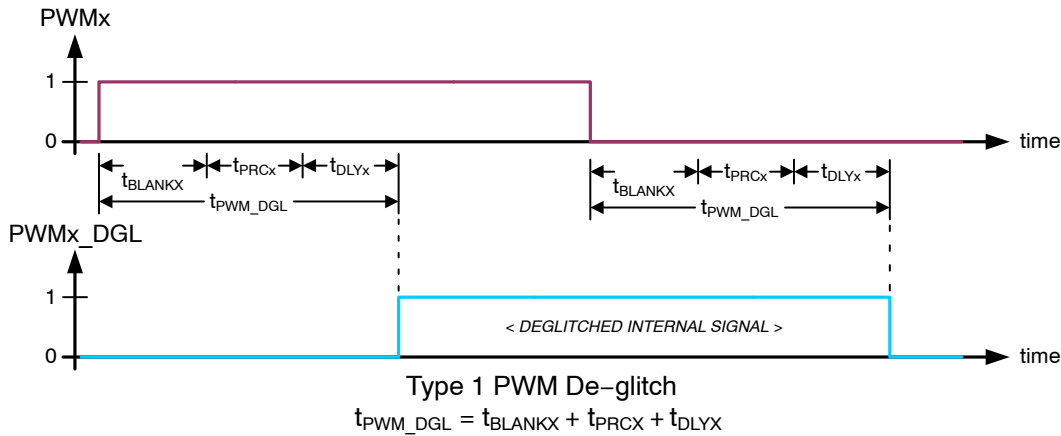
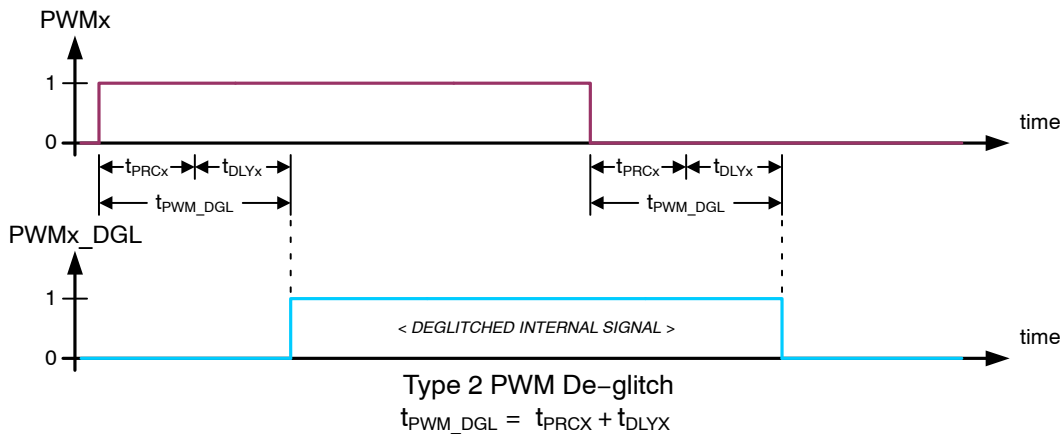

Figure 10. Type 1 PWMx Input De-glitch - CR14.DGL_x = 0
Figure 11. Type 2 PWMx Input De-glitch - CR14.DGL_x = 1
When multiple PWMx inputs are needed to be active, the scheduled PWM signals should be offset in time to avoid degradation of the VDS overload detection due to crosstalk (see § *Overload Protection*). The minimum offset should be based on the t_{PWM_DGL} times appropriate for the respective channels (see § *Switching Behavior of Half-bridge Drivers*, Figure 10 and Figure 11).
- adaptive PWM input de-glitch construction when in half-bridge configuration is selected by DGLx[6:0] bits (see Figure 10, Figure 11, Table 21 and Table 22).
When operating HB1...HB7 in PWM mode and in half-bridge configuration, type 1 de-glitch is selected when CR14.DGL_x = 0 (see Figure 10) and the adapted time is given by:
Type 2 de-glitch is selected when CR14.DGL_x = 1 (see Figure 11) and the adapted time is given by:
- the PWMx_DGL resulting from the channel's operating configuration (see § *Switching Behavior of Half-bridge Drivers*, Figure 10 and Figure 11);